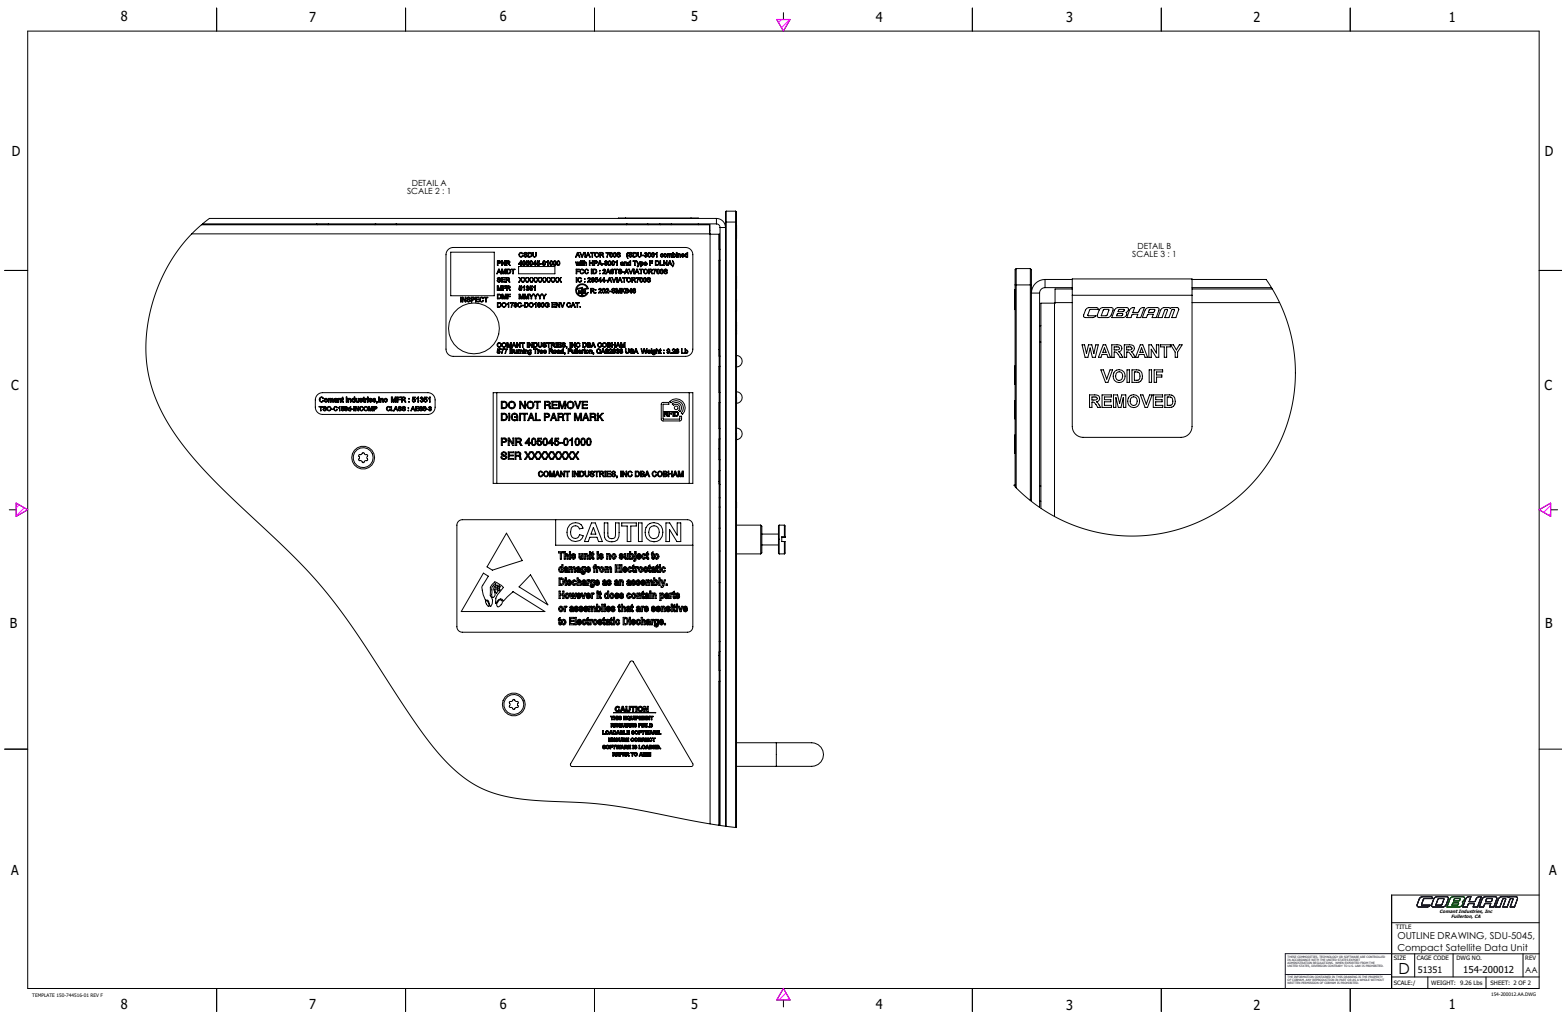

Figure 3-2: Outline Drawing: CSDU (2/2)
4. The M3 threaded stud provides an alternative means for bonding the SCM and may be used at the installer's discretion by fitting a suitable ground bonding strap. Refer to Figure 3-2.